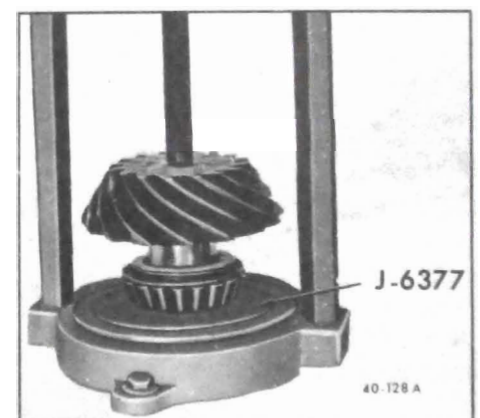

Figure 40-106 - Installing Rear Pinion Bearing
13. Position correct shim on pinion shaft and install rear pinion bearing. Use Installer J-6377 as shown in Figure 40-106.